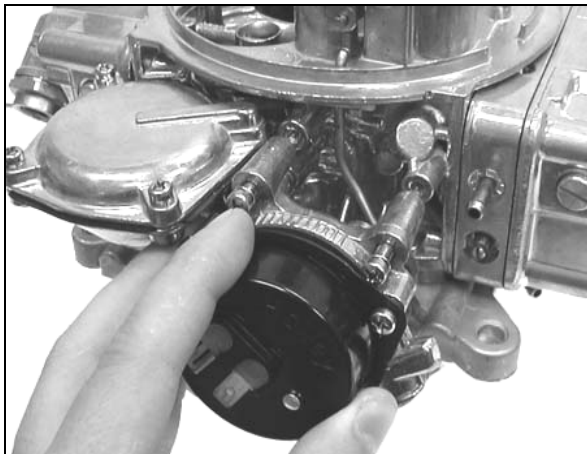

Figure 7
1. Remove the choke cap and choke housing to gain access to the third screw retaining the vacuum diaphragm to the main body (Figure 7).